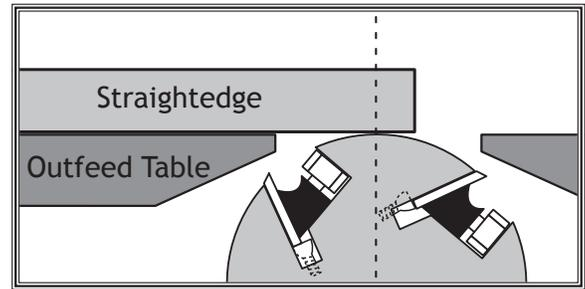

Figure 42. Adjusting outfeed table even with cutterhead body (knife-style cutterhead shown).
1. Place straightedge on outfeed table so it hangs over cutterhead, and lower outfeed table until straightedge just touches cutterhead body, as shown in **Figure 42**.